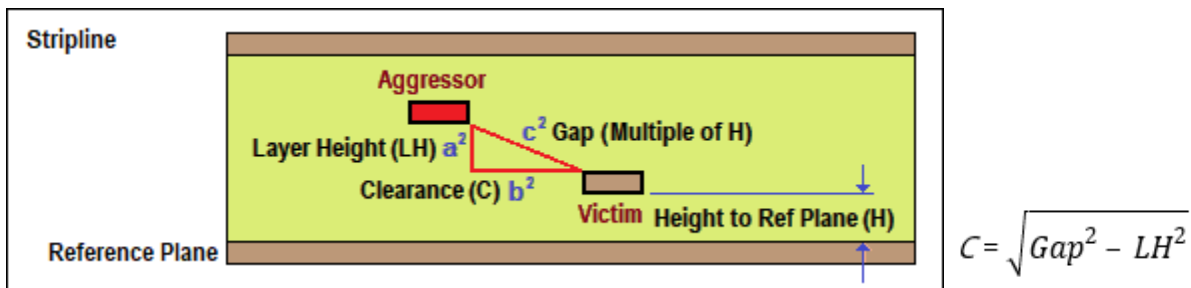

Figure 11.5: Pythagoras Theorem
However, a more accurate value would be to apply the multiple of the reference plane height (H) to the gap distance in the z-axis as shown in Figure 11.5.